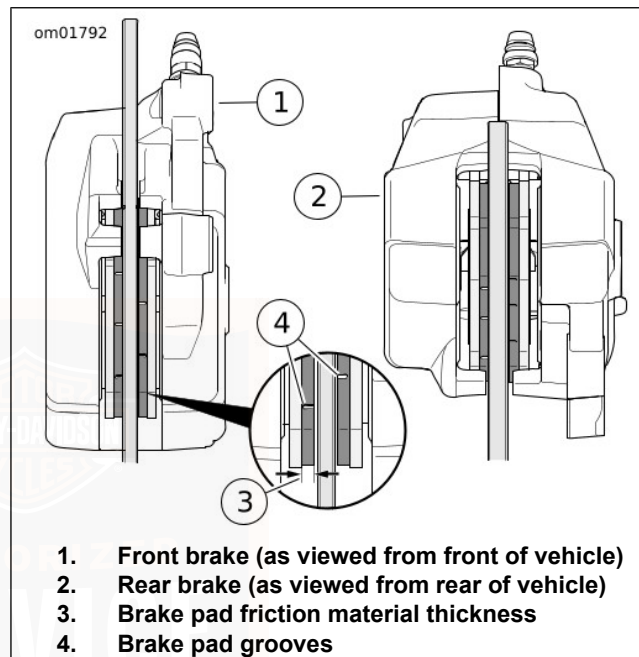

Figure 77. Brake Pad Friction Material
1. See Figure 77. Check the brake disc as it spins. The disc should run true in the brake caliper.